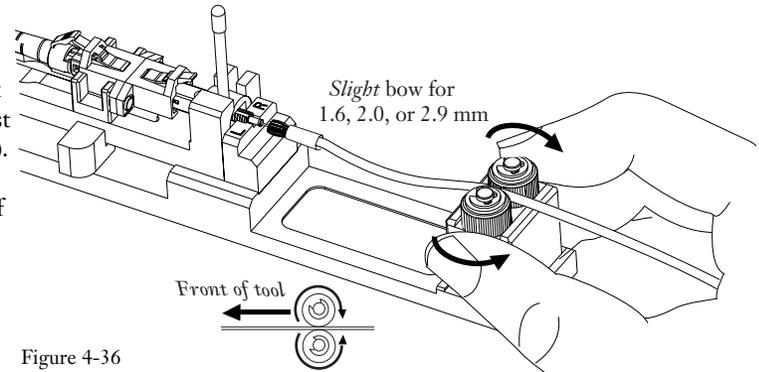

Figure 4-36
**For installation on 1.6, 2.0, or 2.9mm cables** - lightly pinch the index rollers on the fiber, and slowly rotate the rollers until the cable jacket just begins to bow between the connector and the index rollers (Figure 4-36).